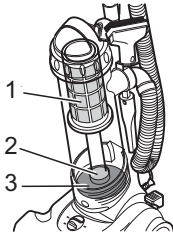

Fig.19
- **Central laminar filter** (Fig. 19/1)
- **Protective motor filter:** under the dust container (Fig. 19/2)
- **Blow-out filter:** under the dust container (Fig. 19/3)